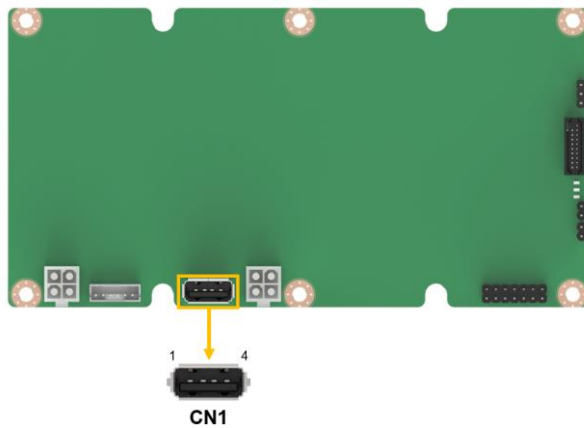

Figure 3-12: USB Connector Location
- CN Location:** See **Figure 3-12**